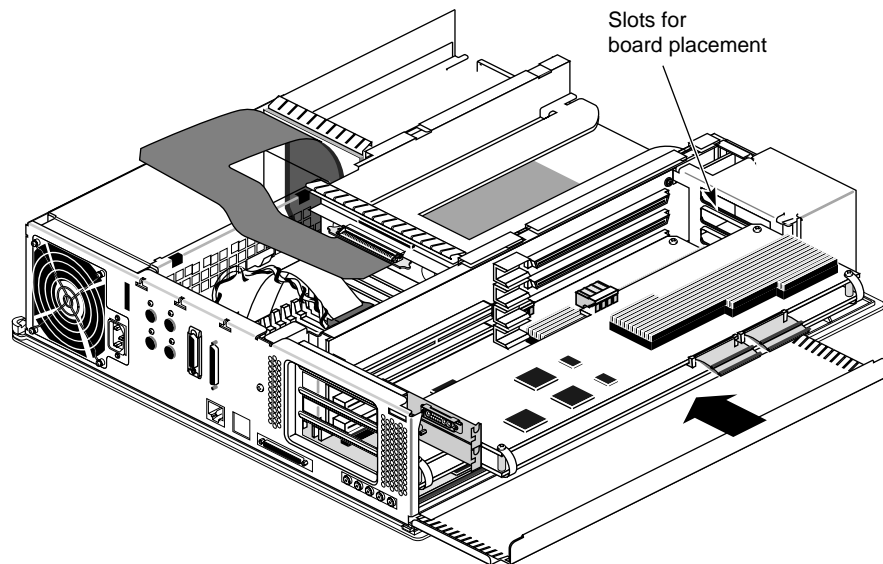

Figure 4-10 Locating the Slots for the Graphic Board Set
4. Position your new 2-slot board set in the uppermost slots. See Figure 4-10.
- Align the I/O panels and connectors for the board set with the slots on the chassis. At the same time align the right edge of the board set with the metal grooves on the right of the chassis, as shown in Figure 4-10.